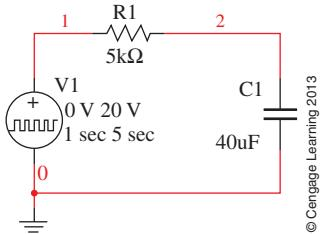

FIGURE 11-68
48. Using Multisim, construct Figure 11-68 on your screen. (The source is found in the Sources Group. Click Place/Component to find it.) Repeat Example 11-17 and plot capacitor voltage and current. You should get the curves of Figure 11-49(b) as your solution.